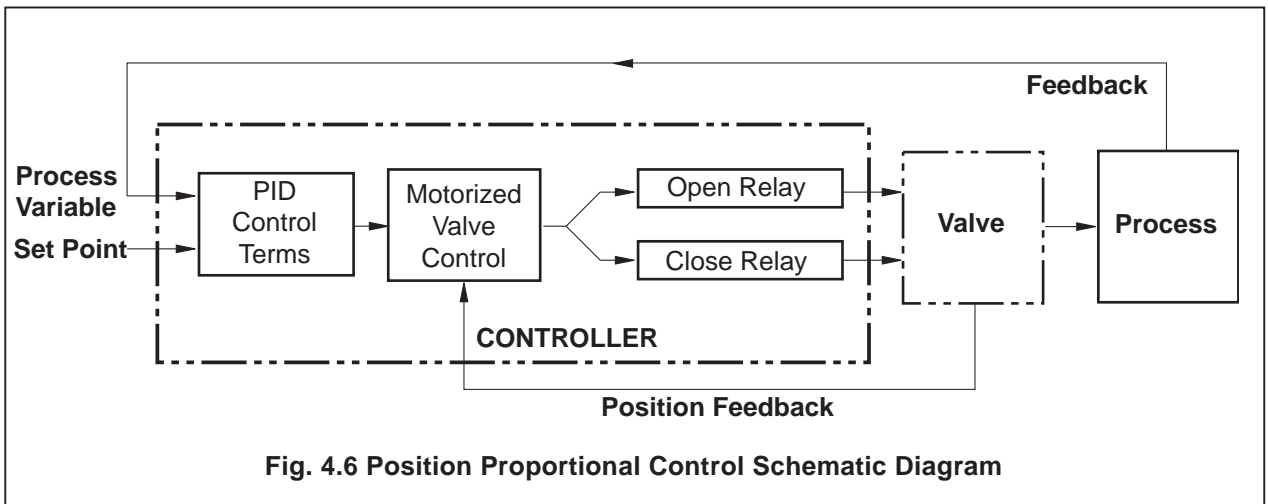

Fig. 4.6 Position Proportional Control Schematic Diagram
- P-PROP* – position proportioning – motorized valve with position feedback – see Fig. 4.6.